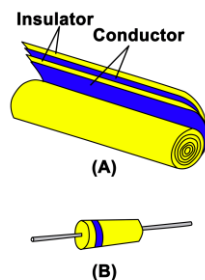

Figure 3 Paper capacitor.
Paper - Capacitors with paper used as the dielectric are cheap, with a high durability. It is easily rolled and is covered with two aluminium sheets acting as the electrodes or plates. To protect the paper from external environment it is covered with wax or oil. In metalized paper capacitors the paper is coated with zinc or aluminium and rolled into a cylinder. The whole cylinder is then coated in a protective surface such as wax. Figure 3 shows the construction of the capacitor in (A) and the complete capacitor in (B). ✓